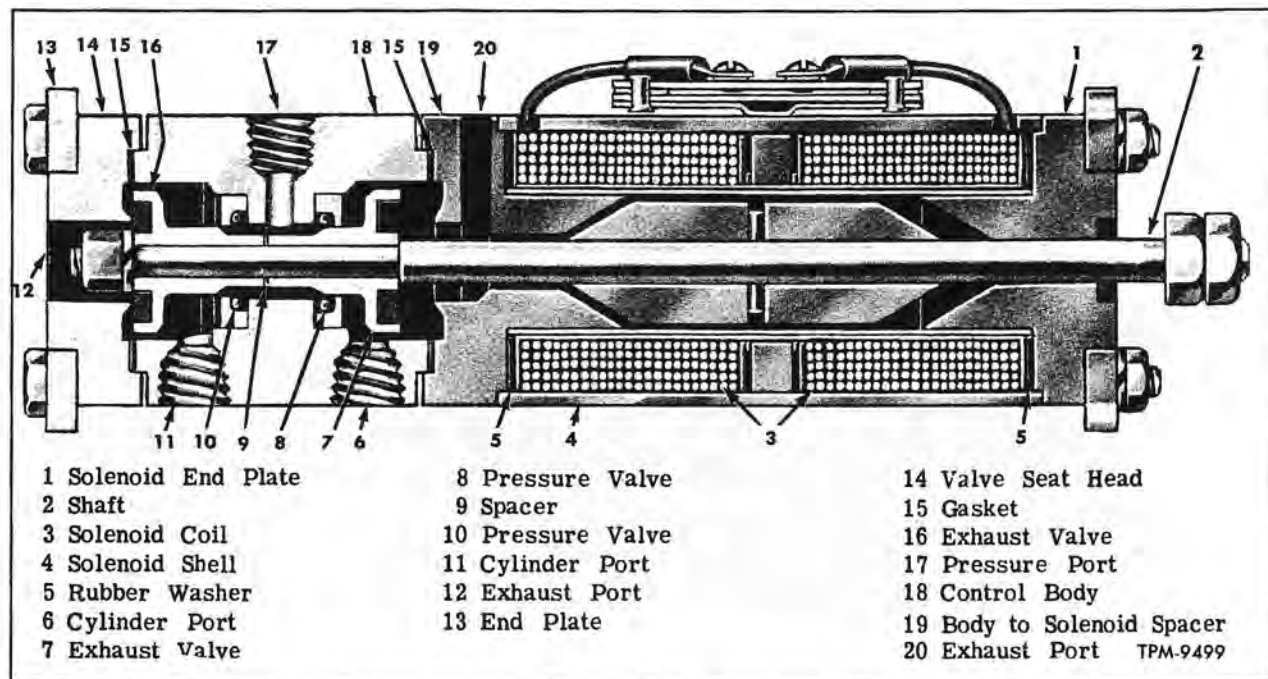

Figure 19—Rear Door Engine Solenoid Valve
Solenoid valve consists of two intake valves and two exhaust valves, actuated by a dual solenoid (fig. 19). Solenoid coils are alternately energized by movement of door sensitive edge switch or by driver's control valve, with resultant valve action admitting air to one side of door engine, while exhausting air from other side.
NOTE: Key numbers in text refer to figure 19.
In position shown in figure 19, exhaust valve (16) is closed, pressure valve (10) is open, exhaust valve (7) is open, and pressure valve (8) is closed. Consequently, air entering pressure port (17) flows through open valve (10), into that end of door engine connected to cylinder port (11). At the same time, pressure in that end of cylinder connected to cylinder port (6) is exhausted past valve (7) and out exhaust port (20).